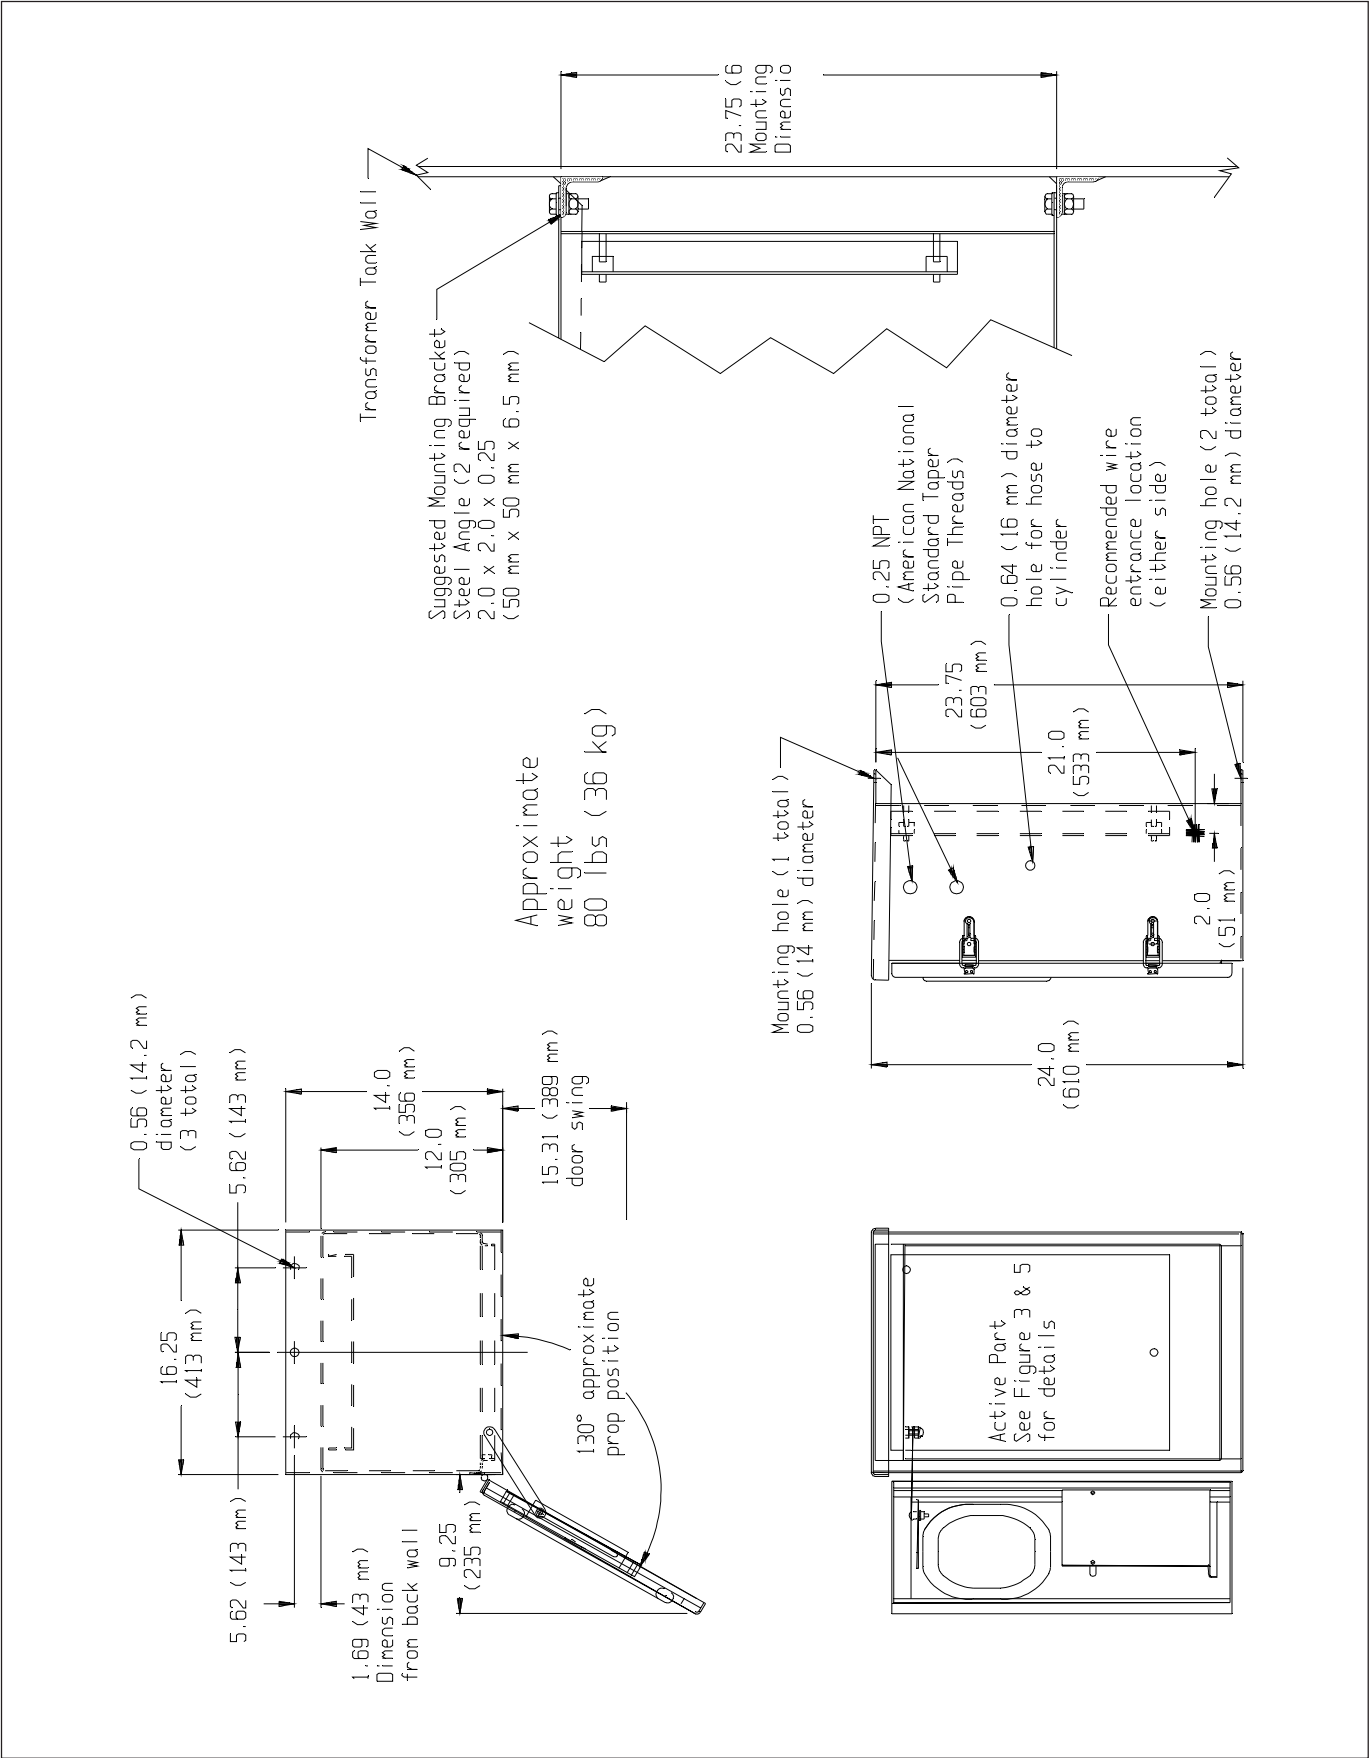

Figure 6: Mounting the RNB\_ enclosure on a transformer.
flat washers, lock washer and nut (not included) as shown in Figures 6 & 7. If there is a gap between the transformer bracket and the enclosure bracket, one or more washers should be used to shim as necessary to distribute the enclosure's weight between the upper and lower brackets.
1. Cut one or more holes in the enclosure to accommodate the cable or conduit fitting(s) required. Refer to Figures 6 & 7 for suggested location.